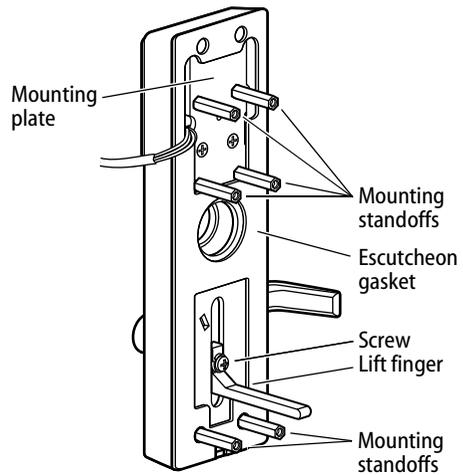

Figure 2 Removing and reinstalling the mounting standoffs, gasket, and lift finger
- 1 Unscrew the six mounting plate standoffs from the mounting plate (Figure 2).
12 Screw the six mounting standoffs onto the mounting plate (Figure 2).